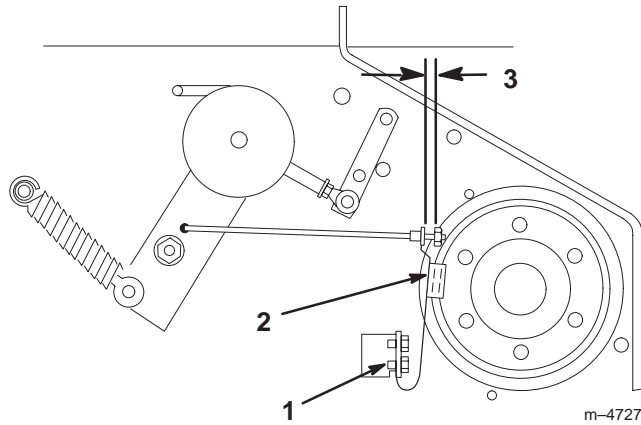

Figure 54
- If necessary, adjust the spring mounting bolts so that the blade brake pad rubs against the pulley edges (Fig. 54).
- Adjust the nut at the end of the blade brake rod until there is 1/8–3/16 inch (3mm–5mm) between the nut and spacer (Fig. 54).